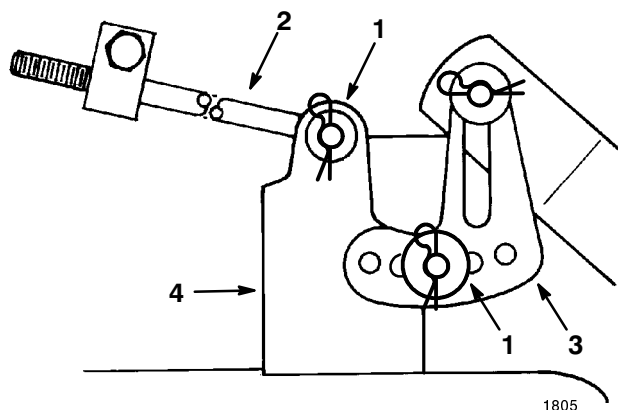

Figure 51
- Remove the hairpin cotter and washer from the leveling bracket (Fig. 51). To level the blade(s), reposition the leveling bracket in a different hole and install the washer and hairpin cotter. (Fig. 51). A front hole lowers the blade height and a rear hole raises its height. Repeat this procedure on the opposite side of the mower.